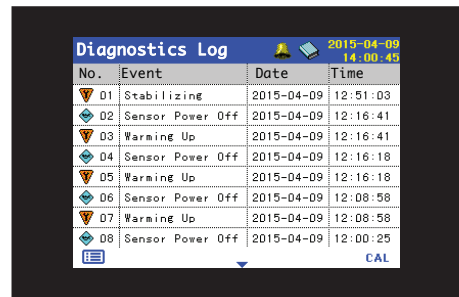

Fig. 8.14 Diagnostics Log page
- *Diagnostics Log* (Fig. 8.14): a history of diagnostic events